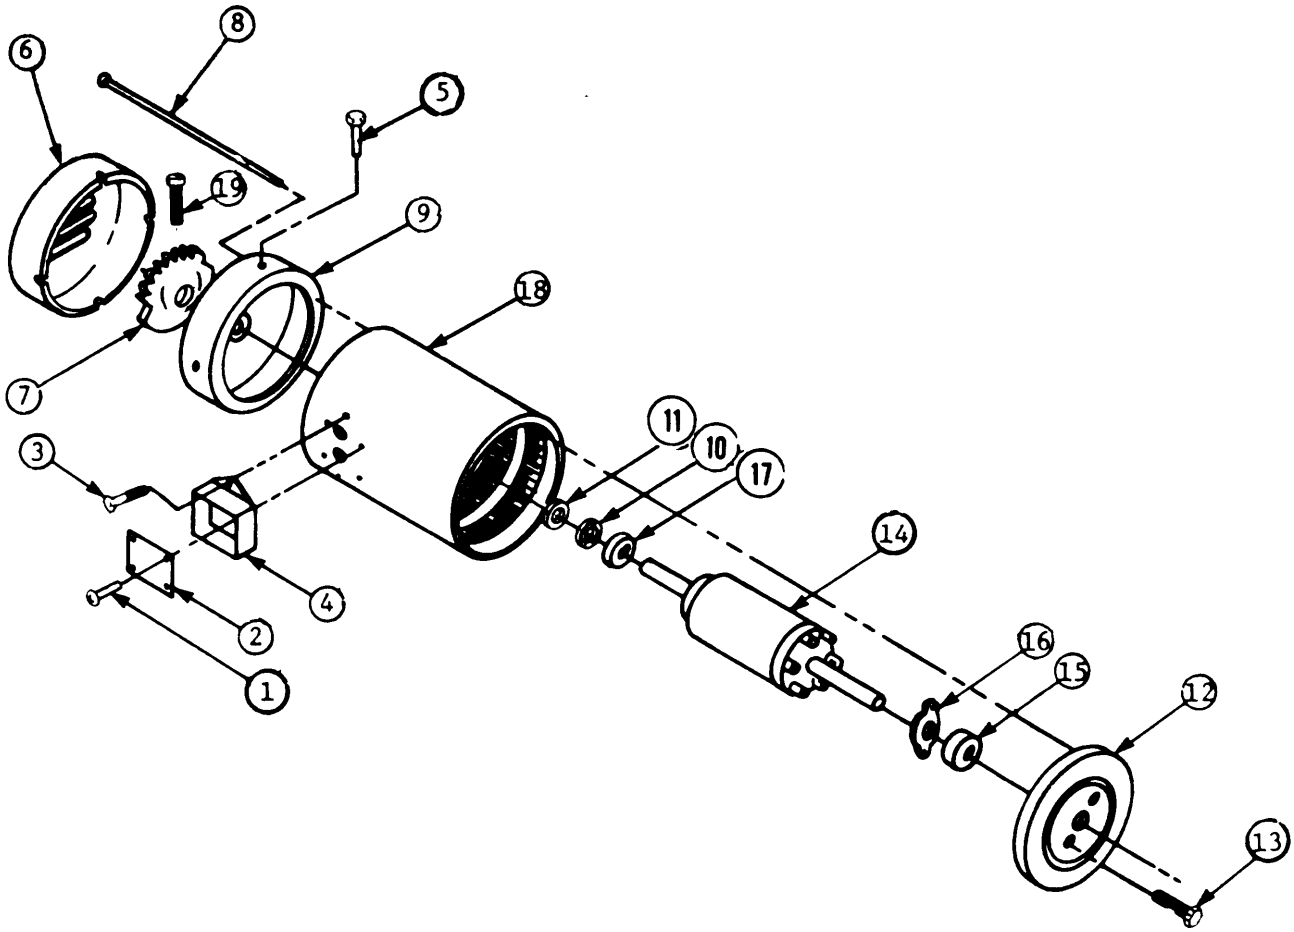

Figure 3-11. Raw Water Pump Motor Assembly
3-15. RAW WATER PUMP MOTOR ASSEMBLY. (Figure 3-11)
(1) Replace all gaskets, seals, and O-rings.
(2) Replace all damaged nuts, bolts, screws, washers, and wavy washers.
(3) Replace damaged, worn, or unserviceable ball bearing assemblies.
- (4) Deburr rotor shaft and remove any residue by buffing with fine emery cloth.
- (5) Straighten bent or dented cooling fan blades and ventilation louvers.
- (6) Replace damaged, unrepairable, or unserviceable motor casing assembly.
- (7) Send unserviceable raw water pump motor assembly to next higher level of maintenance.
g. Reassembly. (Figure 3-11)
- (1) Press fan-end bearing (17) on rotor shaft (14).
- (2) Slide bearing retainer (16) over rotor shaft (14).
- (3) Press pump-end bearing (15) on rotor shaft (14).
- (4) Insert rotor shaft (14) on pump-end plate (12).
- (5) Install two screws (13) through pump-end plate (12) and bearing retainer (16).